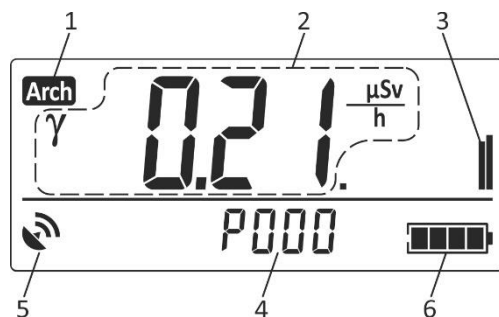

Figure 2.37 – LCD of the dosimeter
2.3.6.10.2.2 In this mode the LCD of the dosimeter displays the following (Figure 2.37):
- **Arch** symbol (1) – indication of the mode of measurement results viewing saved in the nonvolatile memory;
- measurement result (2);
- indicator of measurement result location in the nonvolatile memory (3);
- measurement object number (4);
-  symbol - indication of the availability of geographical coordinates of the measurement object in the memory (5);
- battery status symbol (6).
**Important!** **Arch** symbol (1) is blinking, if during operation of the dosimeter a part of the oldest information was lost (2.3.4 of this OM).